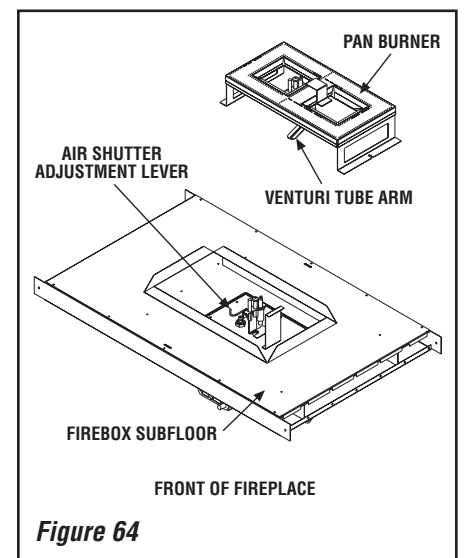

Figure 64
Step 3. Referring to **Figure 64**, remove the burner.
Step 5. (Refer to **Figure 64, page 41**)
Ensure that the arm of the venturi of the burner is hooked onto the air shutter adjustment lever (refer to **Figure 64 on Page 41**). The primary air opening can be adjusted by rotating the adjustment lever from beneath the firebox floor. Refer to **Figure 62 on Page 37** for the recommended minimum primary air opening setting.